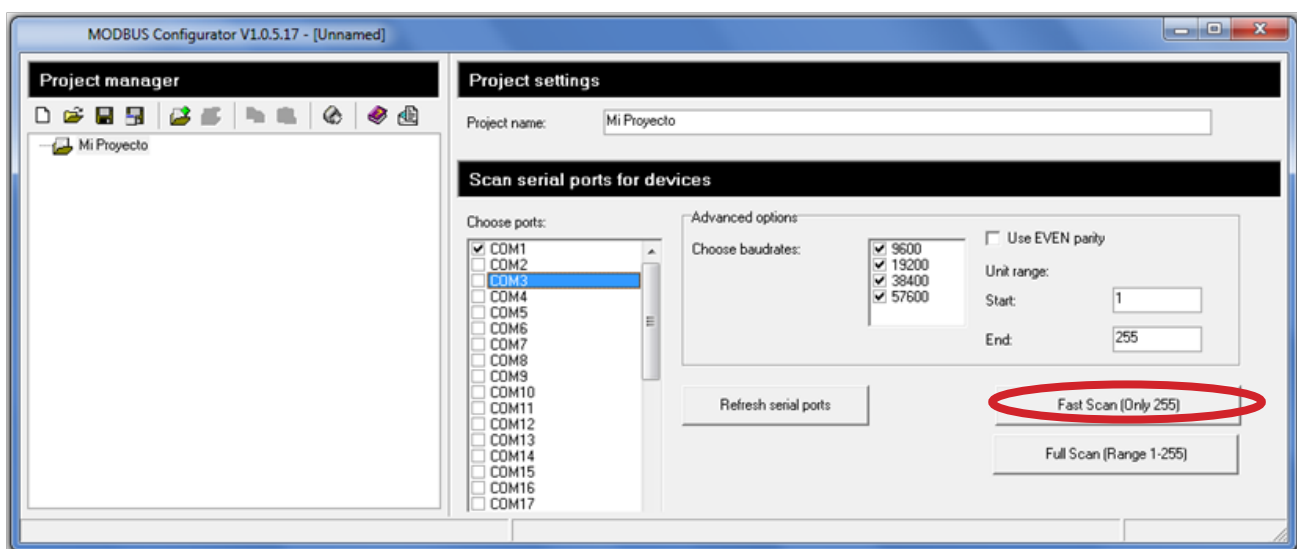

Figure 8: Selecting the COM port to which the CMBUS is connected
8.- Select the serial port to which the **CMBUS** is connected on the main screen of the software (**Figure 8**).